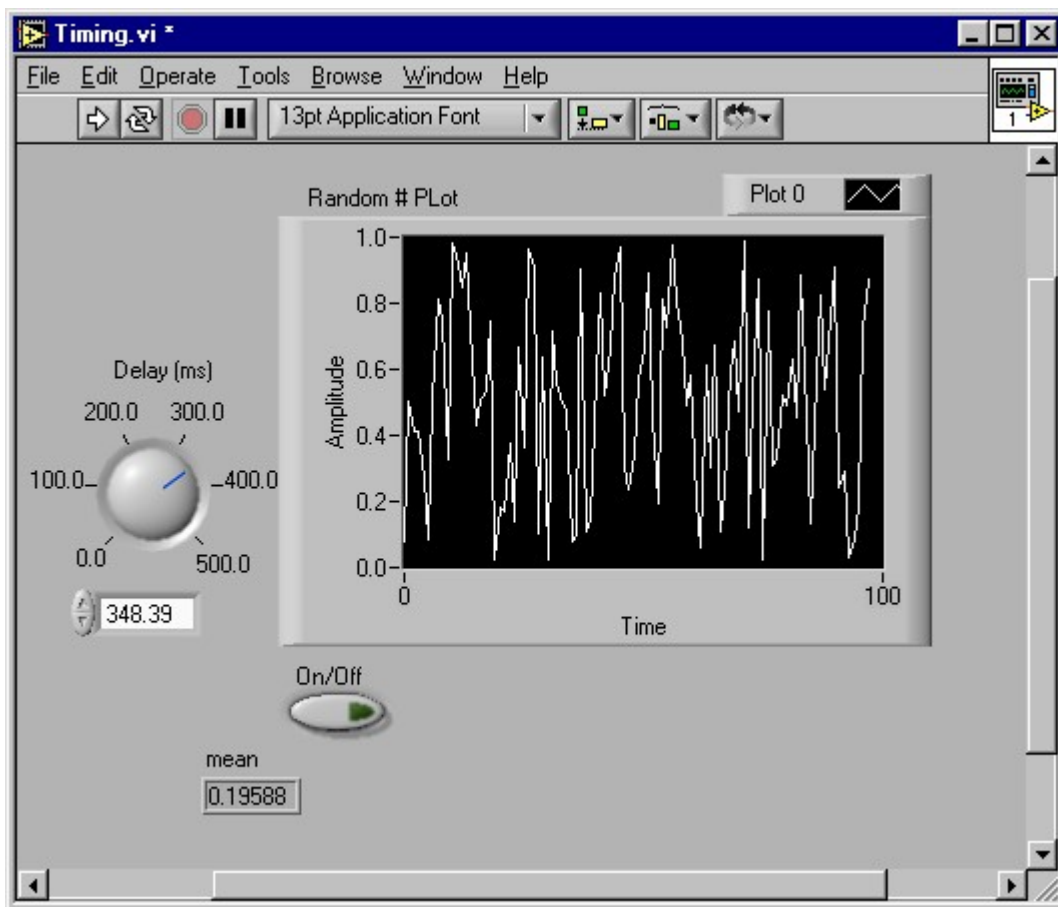

Figure 3. Adding knob, analysis and file I/O to the VI.
Step 2: From the *Controls Palette* associated with the *Front Panel* window, select *Numeric >> Knob* (or *Numeric >> Dial*) and add it to the *Front Panel* window. Use the *A* icon in the *Tools Palette* and re-label the knob as *Delay (ms)*. See Figure 3 below.